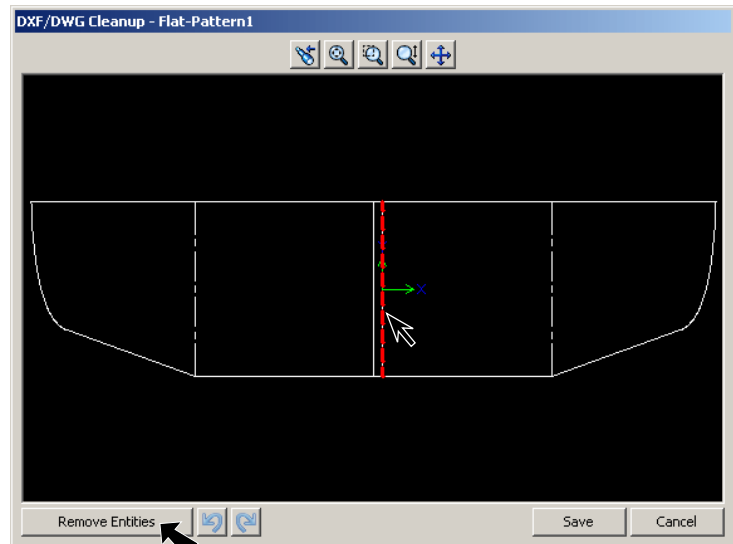
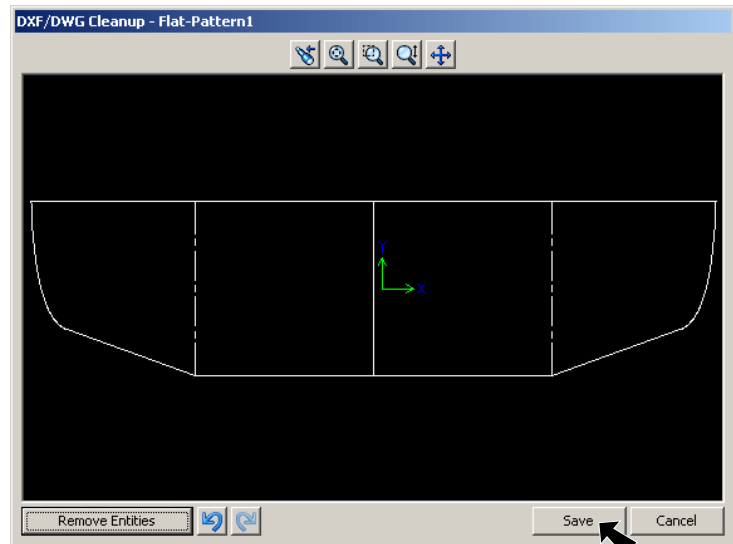

Fig. 29
Fig. 30
select line and click **Remove Entities**, **Fig. 29** and **Fig. 30**.
Step 5. Click Save, **Fig. 30**.